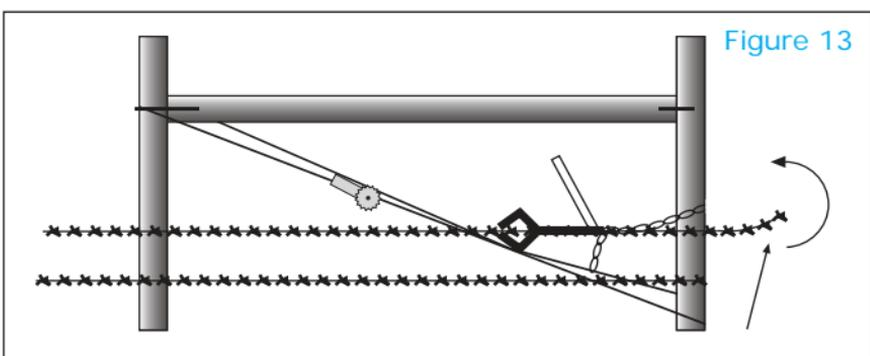

Figure 13
5. Use a chain grab or come-along to tension Bekaert high tensile barbed wire. First, attach the device to the wire and the end post. Make sure you do not attach where your wire has to go. Next, tension the wire. After the proper tension has been reached take the free end of the wire and pull it hand tight. Wrap this end around the end post one time. Finally tie off this wire by wrapping it around itself at least five times. Carefully release the tensioning device. (Figure 13)